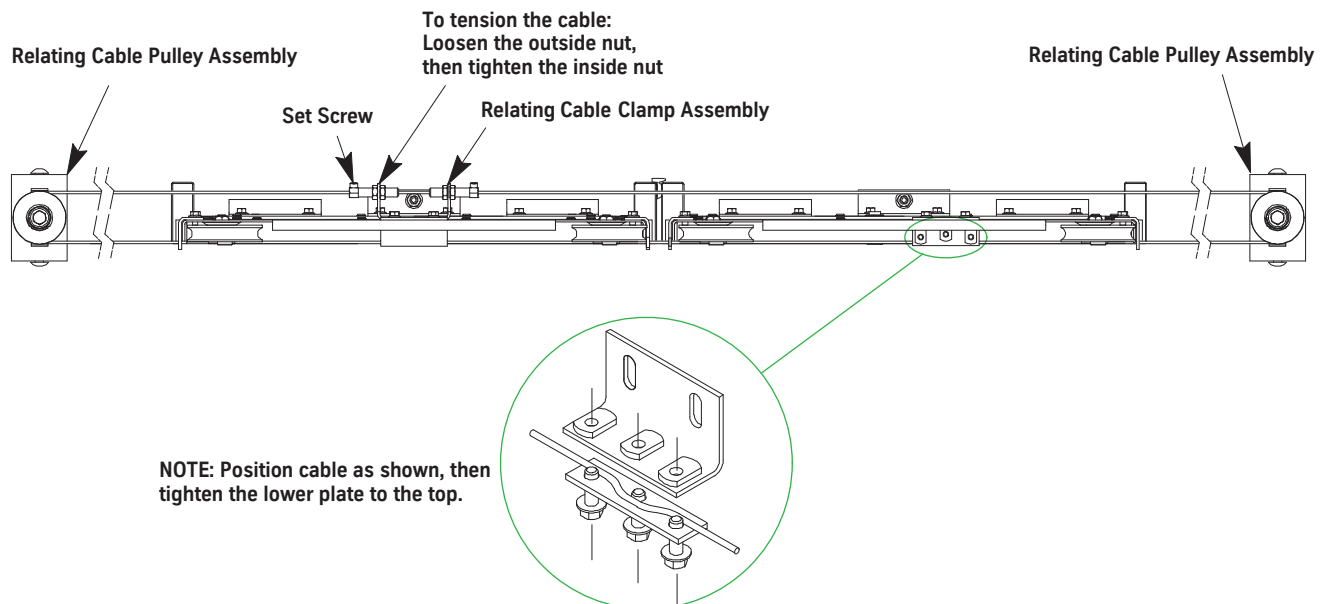

Figure 68 - Relating Cable Installation
1. Install one relating cable pulley assembly in the strut on each end of the hoistway header. See Figure 68 on page 7-77.